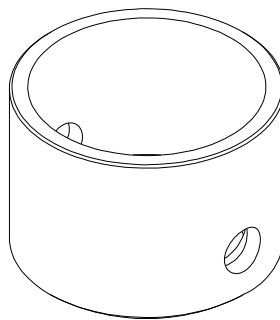

Fig. 6: Seal Retainer
Slide ceramic plungers (26) onto plunger rod and insert the plunger retainer washer (28) into the plunger. Clean the plunger retaining bolts (29). With the aide of a pick, remove the plunger retainer o-ring (27). Replace the o-ring (27) with the new one supplied in the kit as shown in Fig. 6. Slide the plunger retaining washer (28) onto the plunger retainer (29).